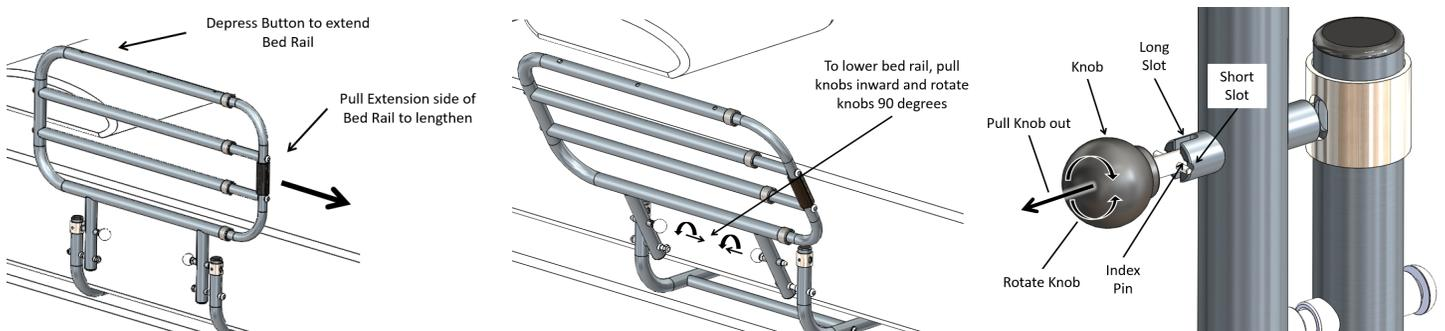

FIGURE 7
7. To extend bed rail, depress button on top of bed rail and pull extension side of bed rail outward. To lower bed rail, pull and rotate Knobs 90 degrees until Index Pin engages the Short Slot, as show below in Figure 7.